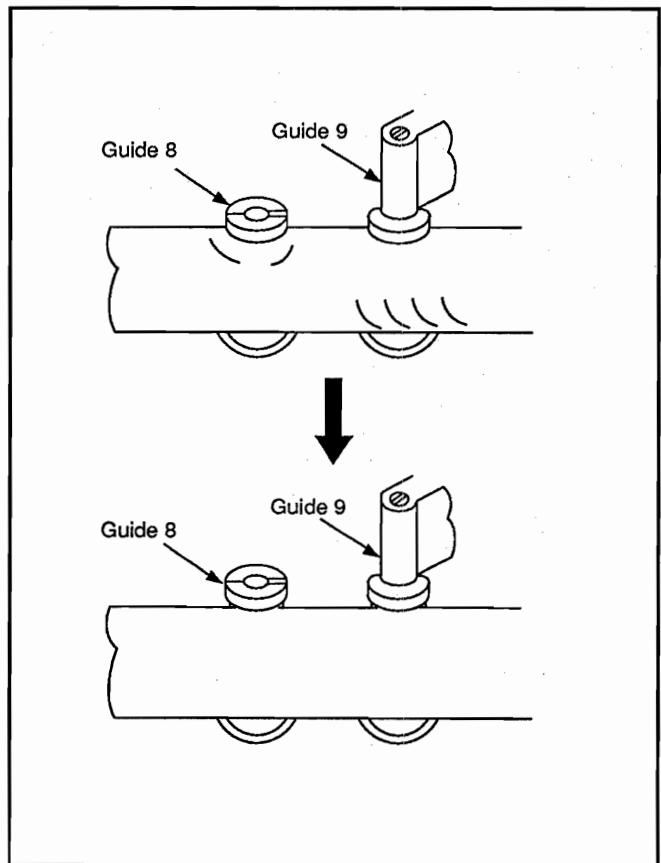

Fig. 1-11
- 6) If the tape is creased by the top flange of Guide 8 and/or the bottom flange of Guide 9 in review mode, turn Guide 10, 45 degrees at a time, to smooth the tape. (Fig. 1-11)